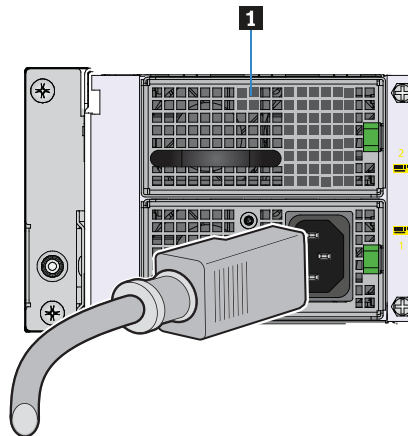

Figure 16. Connecting power cords
- Attach a power cord for the installed PSU. The Power On LED (see **1** in Figure 16) for the PSU will blink green when AC main power is present. The Power On LED will illuminate a constant green when power to the PSU is turned on.